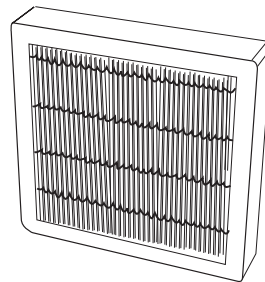

Figure 5-10 Air Filter Cartridge
4. Remove the air filter cartridge. (Figure 5-10.)